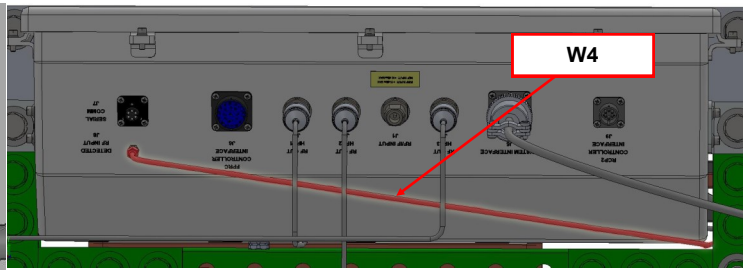
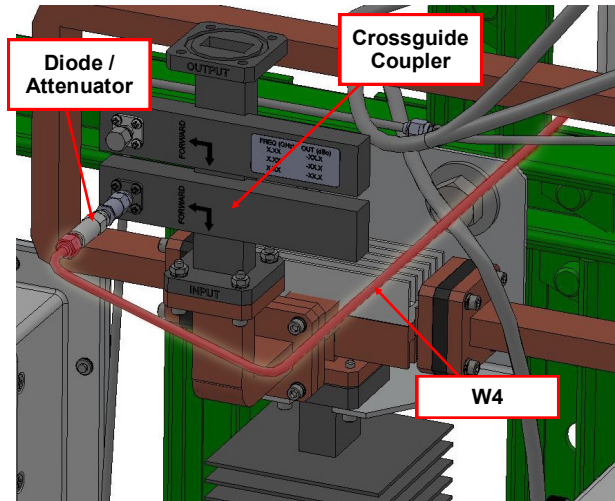

Figure 4-16: Connect W4 to Port J8
Figure 4-17: Connect W4 to Diode/Attenuator at Crossguide Coupler
2. Locate the coaxial cable labeled W4. The cable will run across the length of the signal box as shown in **Figure 4-16**. Connect the SMA connector to Port J8 of the signal box. Connect the SMA connector at the opposite end to the detector diode and attenuator at the crossguide coupler at the system output. See **Figure 4-17**.